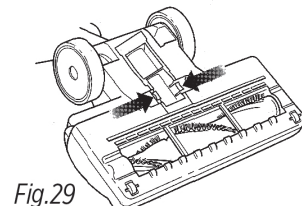
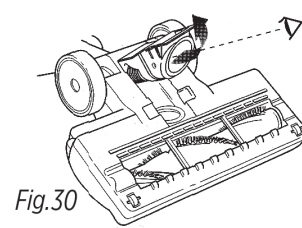

Fig.29
Fig.30
- Turn motorized floor brush over and detach the hose by squeezing the tabs together and pulling it out. Straighten out the hose and inspect the inside for any blockages. (Fig. 29, Fig. 30)